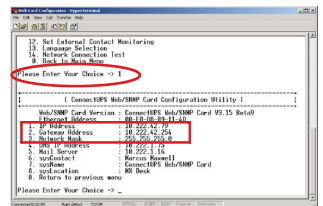

Figure 10. Set ConnectUPS Card IP Address
2. Type **1** to display the Set the IP Address, Gateway Address and MIB System Group screen (see Figure 10).